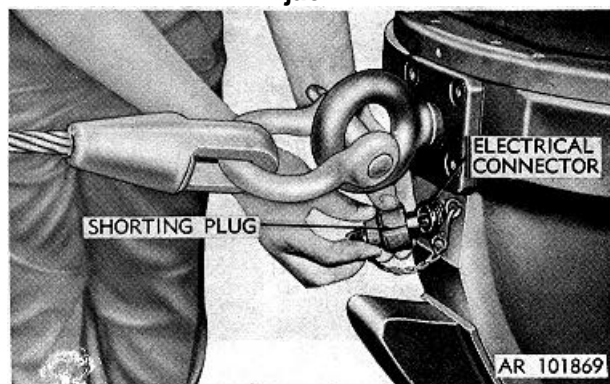

Figure 2-39. Unscrewing shorting plug from electrical connector.
- b. Unscrew shorting plug from electrical connector beneath front eyebolt (fig. 2-39).